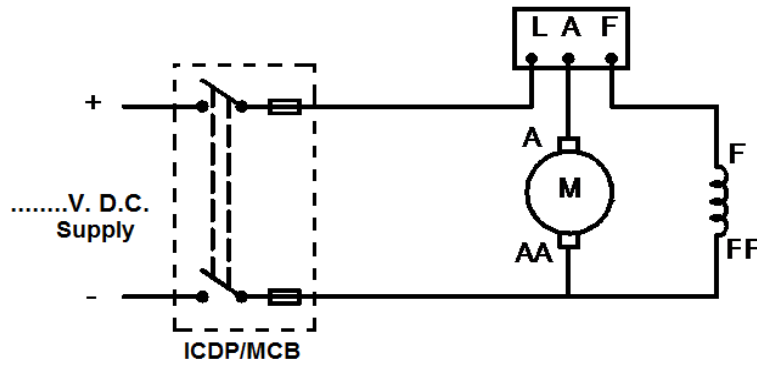

Fig.1 (Forward / Normal Rotation)
1. Connect the circuit as per Fig 1 and **get it checked by subject teacher.**
1.	As per fig.1